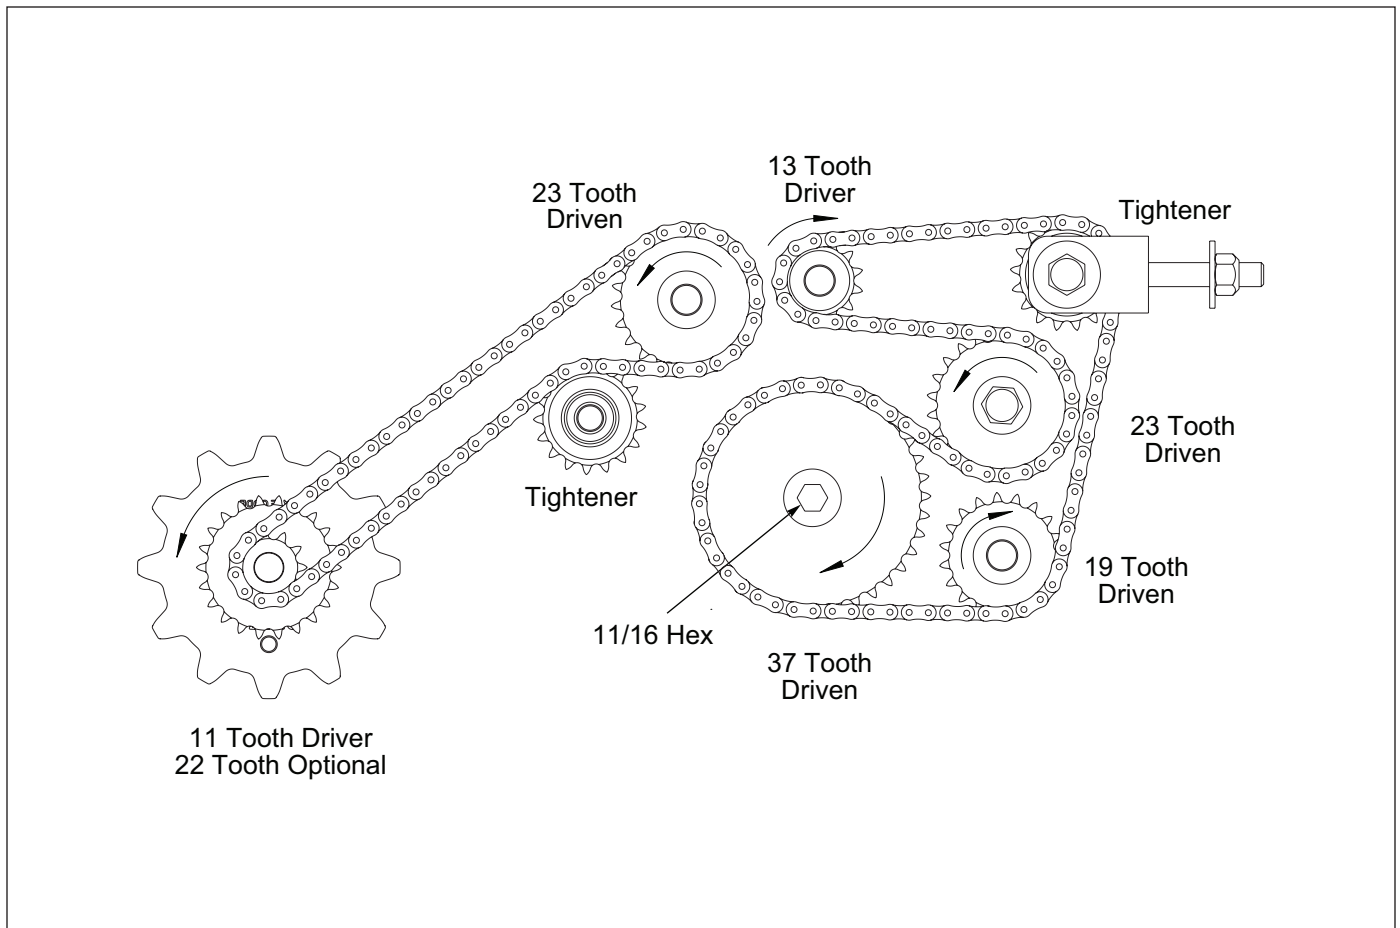

Figure 3-13: Transmission Drive
Rates are for the 11 Tooth Driver. Double these values for the 22 Tooth Driver. See Figure 3-13.
5. Turn 11/16 Hex on Transmission Shaft Clockwise(CW). See Figure 3-13.